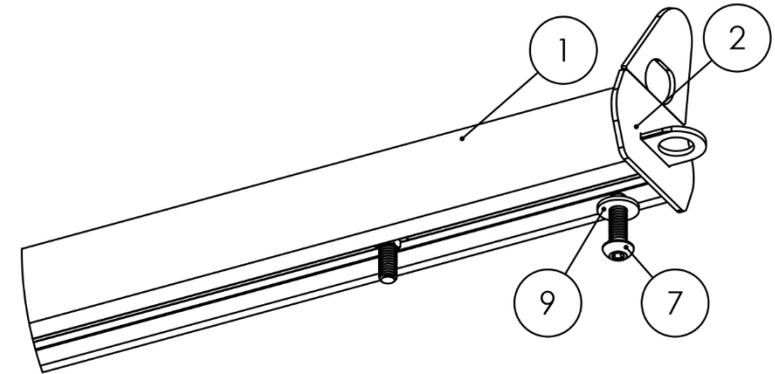

Figure 9
5. **Install the End Caps to the Crossbars.** Slide (4) End Caps (Item No. 2) into each end of a Crossbar (Item No. 1). Once inserted, match the Crossbar's pre-drilled hole with the End Cap's threaded hole. As shown in Figure 9, secure each End Cap by threading a 1.25" Button Head Cap Screw (Item No. 7) and a Metal Washer (Item No. 9) into the concentric holes.